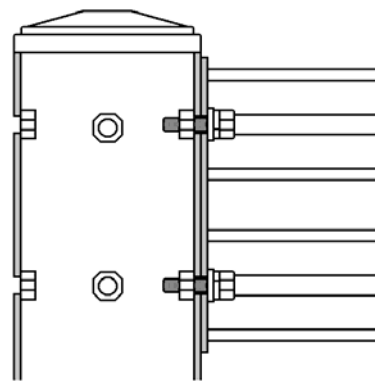
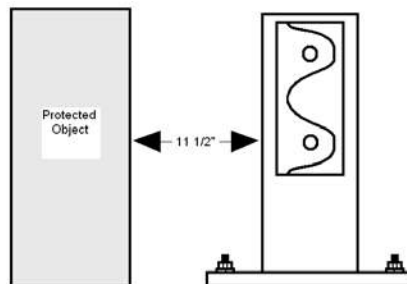

Figure 1 -Cut-Away View
Figure 2 - Rail Placement
5. Using the provided hardware, bolt the rails into place on the columns as seen in Figure 1. The front of the rail with the Rhino Rails logo should face away from the protected object as seen in Figure 2. Please Note When installing Lift Out Adaptor option, the included lock washers are not required.